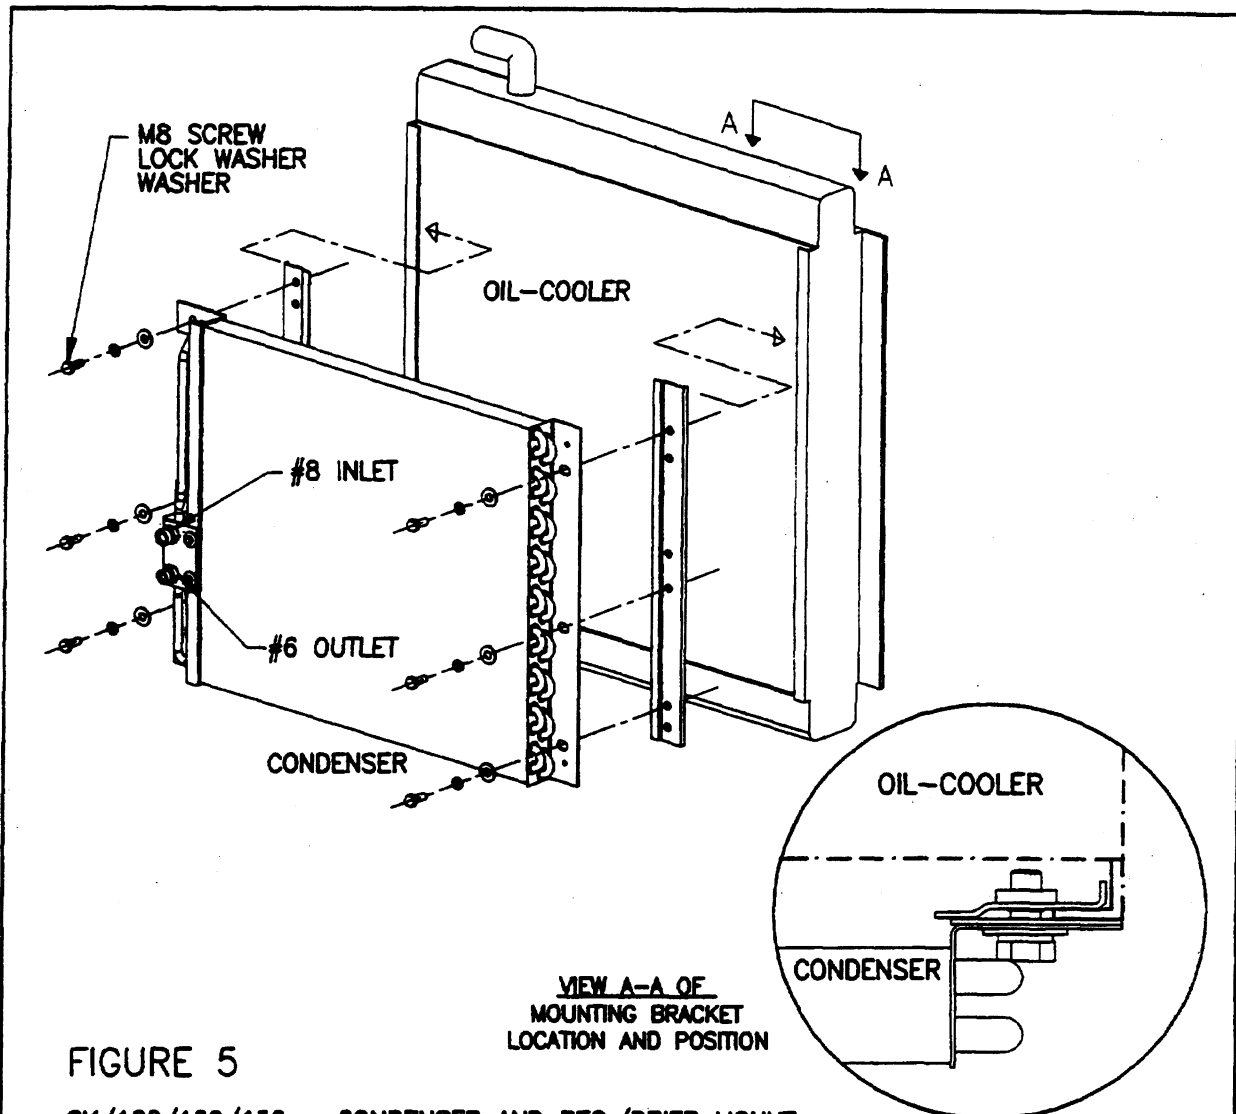

FIGURE 5
1. For SK100/120/150 see Figure 5.